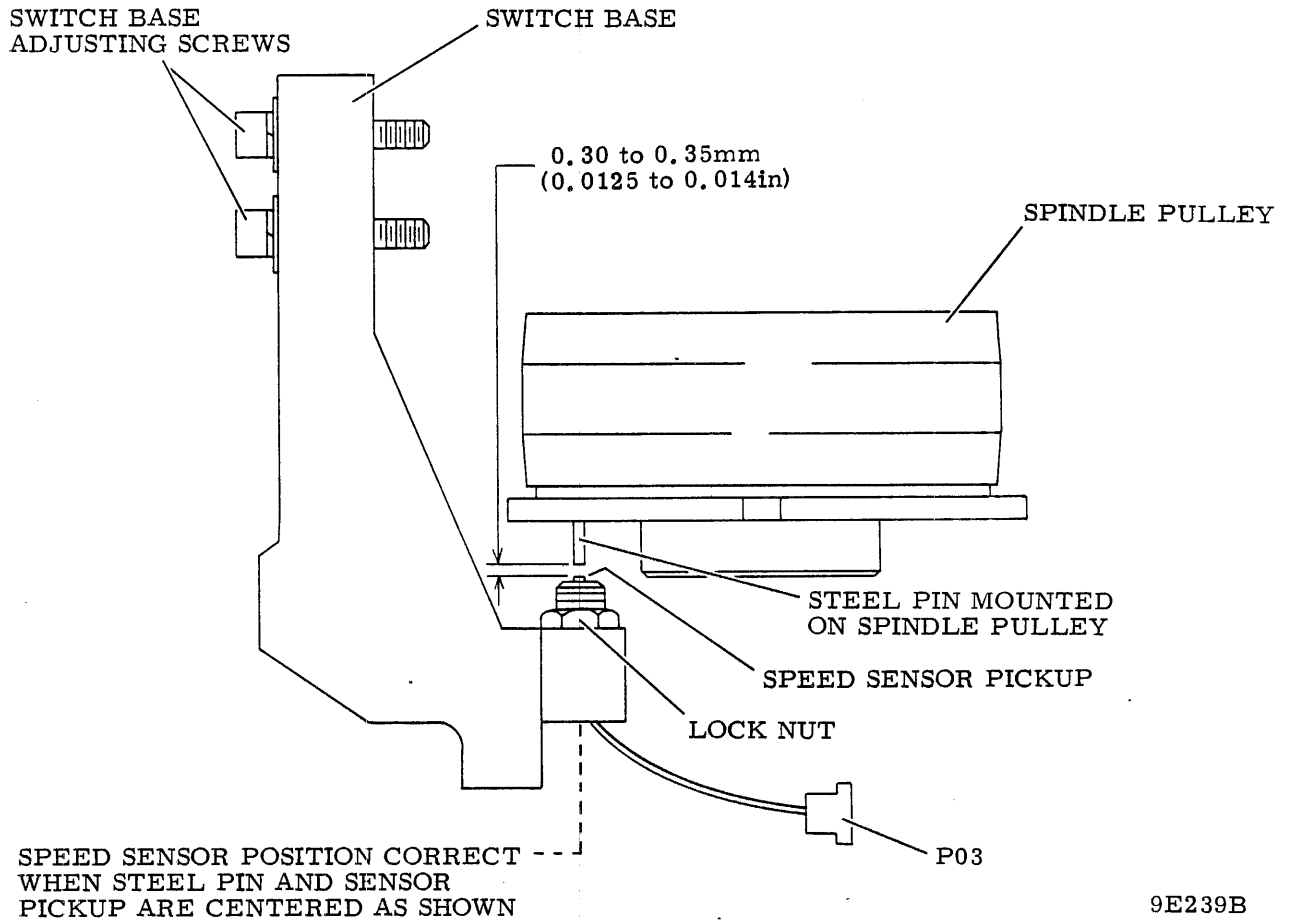

Figure 6-31. Speed Sensor Assembly Adjustment
4. Use feeler gauge to check that gap between sensor tip and pin is as follows (refer to figure 6-31):